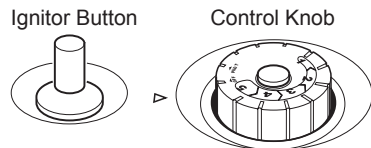

Figure 21 - Control Knob In The OFF Position
4. Wait five (5) minutes to clear out any gas. Then smell for gas, including near the floor. If you smell gas, STOP! Follow "B" in the safety information, column 1. If you don't smell gas, go to the next step.
5. Turn control knob counterclockwise to the PILOT position. Press in control knob for five (5) seconds (see Figure 21).